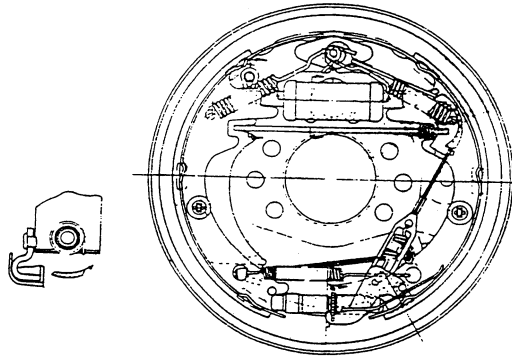

Fig. 2-27
(1) Make the brake shoe diameter approach the specified mounting size, and pull the adjusting level with your finger along the arrow marks as shown in Fig.2-27 to turn the adjuster gear. When removing off your finger, the adjusting lever should return to its original position without rotation of the adjuster gear.